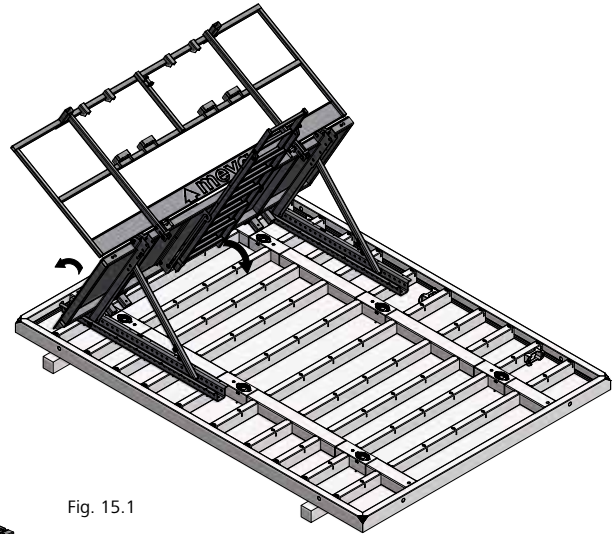

Fig. 15.1
11. Swing the platform with rear railing up through 90° (Fig. 15.1).